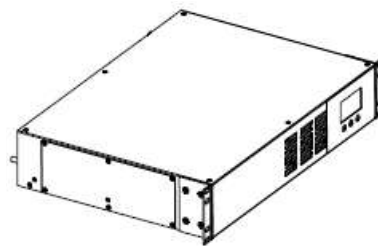

Figure 11
7. Re-attach the side panel and reinstall the UPS. (**FIG. 11**)